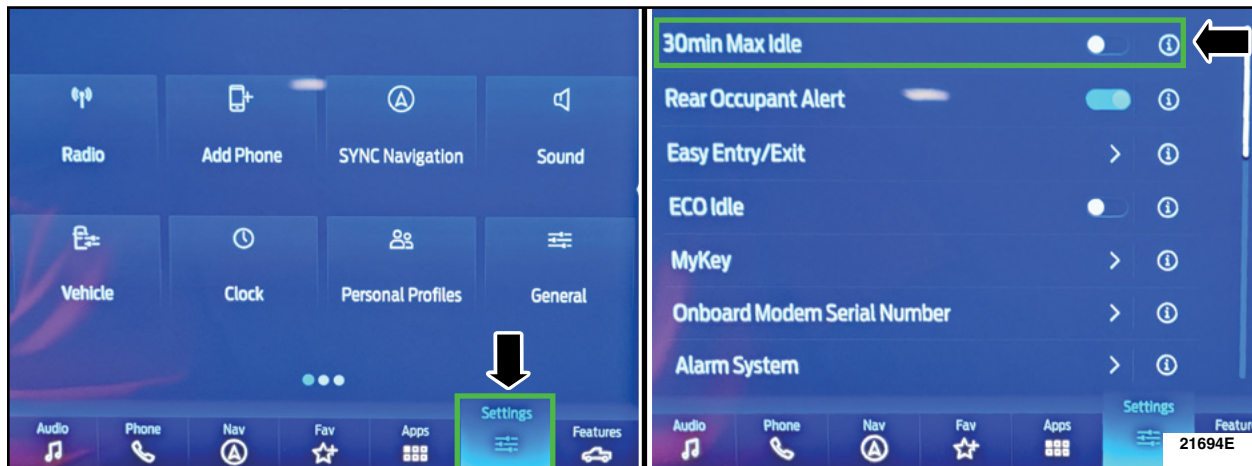

FIGURE 1
- From the center display press the vehicle settings button and turn off the 30 minute max idle setting. See Figure 1.
NOTE: Each vehicle package center display may be different between Ford and Lincoln products. IF Available - In the information display locate the Settings Icon. A new window display will open, search for the "30min Max Idle" setting bar menu and turn it off. Use Figure 1 below as guidance.